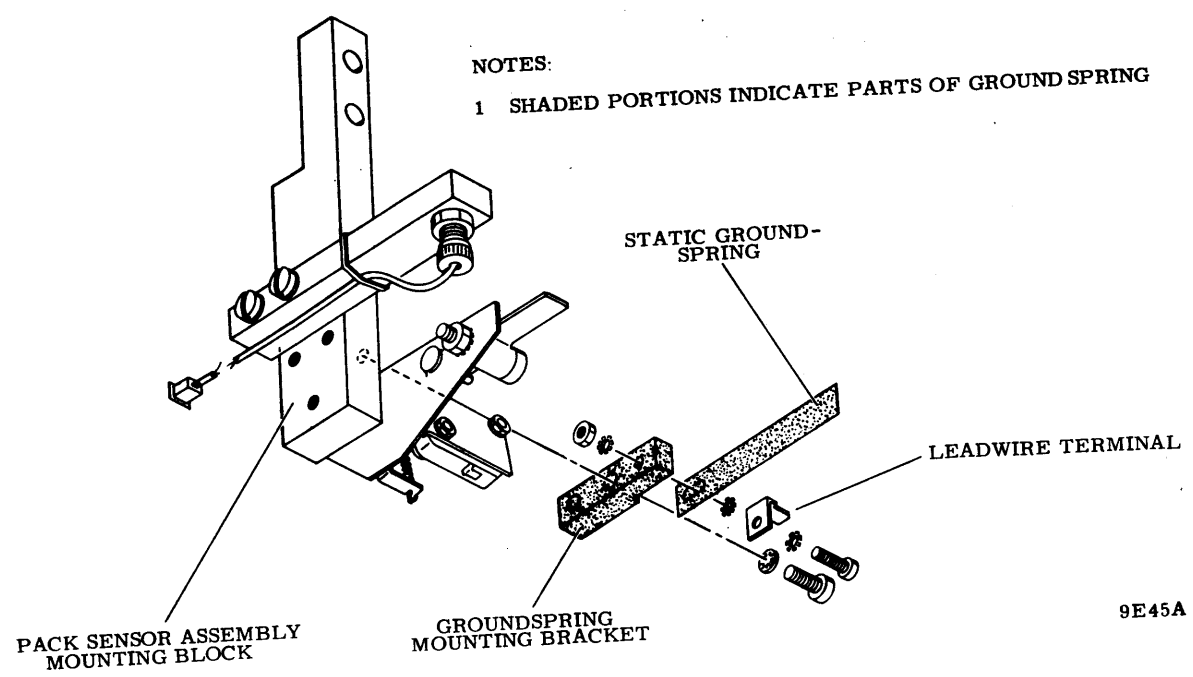
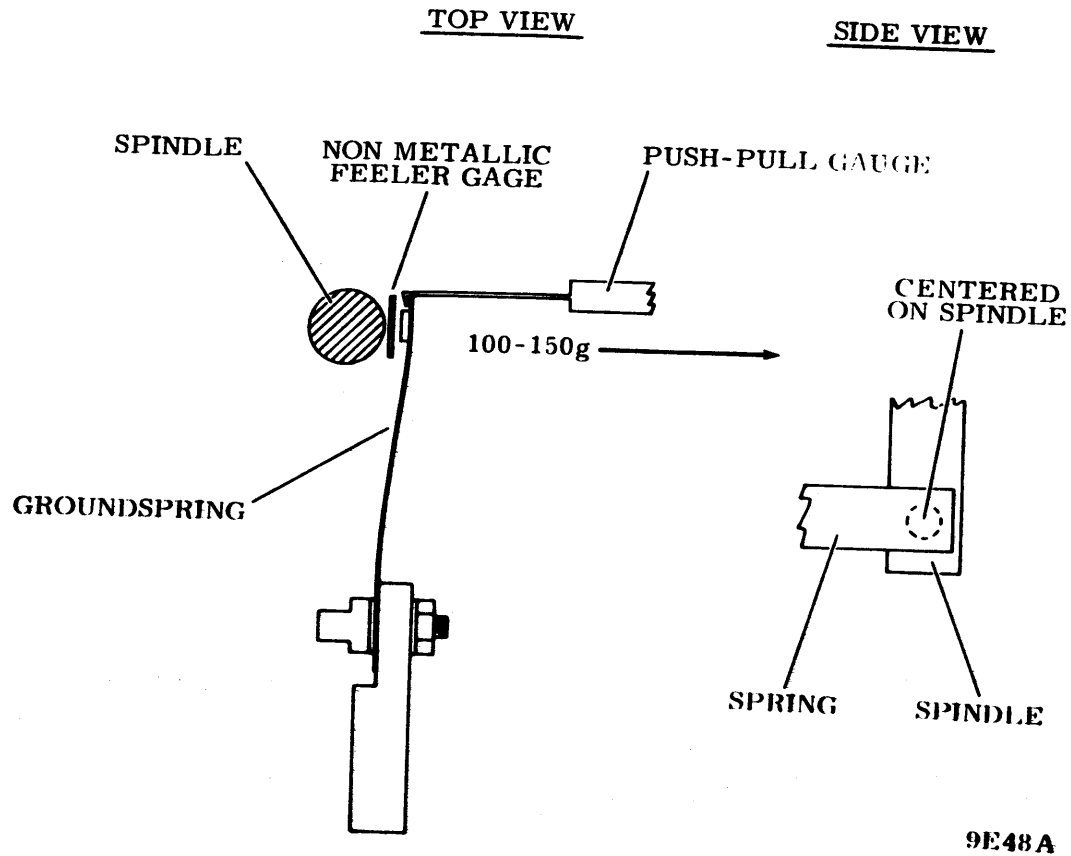

Figure 6-38. Static Groundspring Replacement (S/C 08 and Below)
Figure 6-40. Static Groundspring Adjustment
3. Refer to figure 6-38 and remove static groundspring leadwire from terminal on groundspring.
3. Refer to figure 6-38 and check that static groundspring is approximately centered vertically and on lockshaft (refer to figure 6-40). If spring is not centered, loosen hardware securing spring to its mounting bracket, center spring as required then tighten screw.
5. Refer to figure 6-40 and visually check that groundspring is approximately centered on lockshaft.